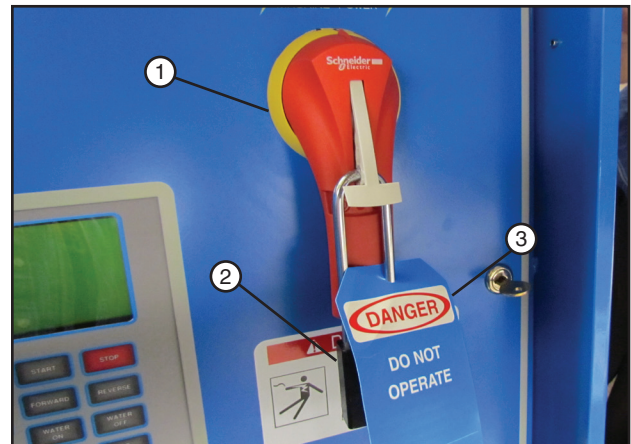

Figure 65-2 1. Main Disconnect
2. SHUT OFF and lock the control panel main power disconnect. See figure 65-2.
FILL OUT the blue (OSHA safety color code) tag and attach to the disconnect after locking. See figure 65-2.